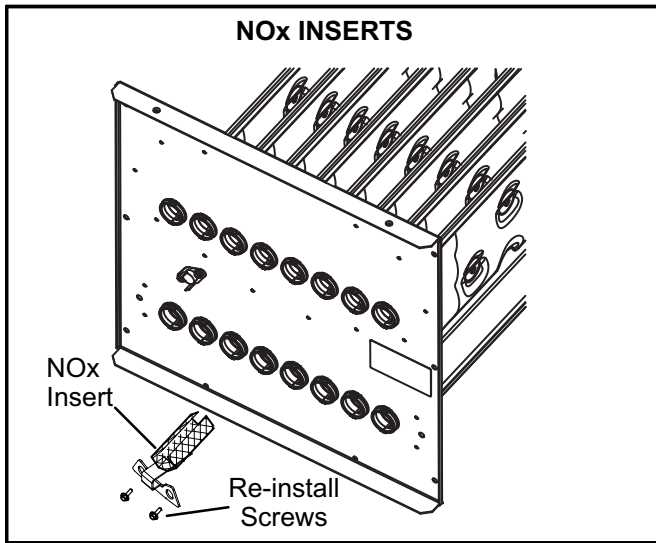
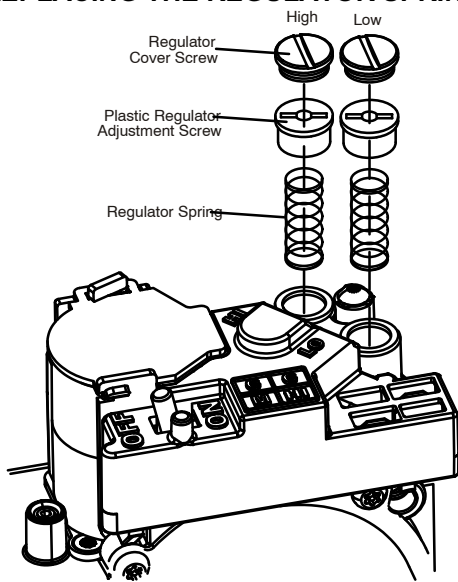

FIGURE 1
FIGURE 6
- a - Remove both high fire and low fire springs from the gas valve. See figure 6.
- 9 - **EL280(X) and SL280(X) NO_x units being converted from natural to LP /Propane.**
- b - Remove the screw which secures each of the NO_x inserts to the clamshell. **Remove the NO_x insert and reinstall the screw. See figure 1.**